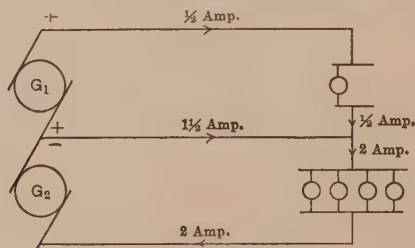

FIG. 95. Three-wire system; unbalanced. Neutral carries some current.
in Fig. 95, on the (-) side of the neutral, then since the (+) side is only supplying  $\frac{1}{2}$  amp., the neutral must carry  $1\frac{1}{2}$  amp. from the generator out to the lamps.  $G_2$  is now supplying most of the power.
**Prob. 101.** What is the voltage distribution in Fig. 95, if the wires all have a resistance of  $1\frac{1}{2}$  ohms? The generators maintain 115 volts each and each lamp takes 0.45 amp.?